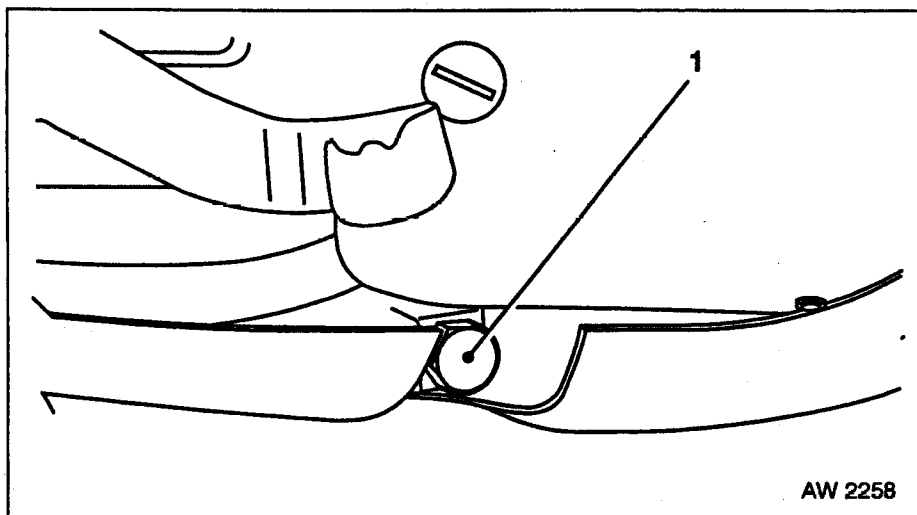

Fig 3.5 Crankcase Drain Plug
d. Drain the engine of oil by removing the engine oil plug (Fig 3.5 refers). **NOTE:** Do **NOT** overtighten.